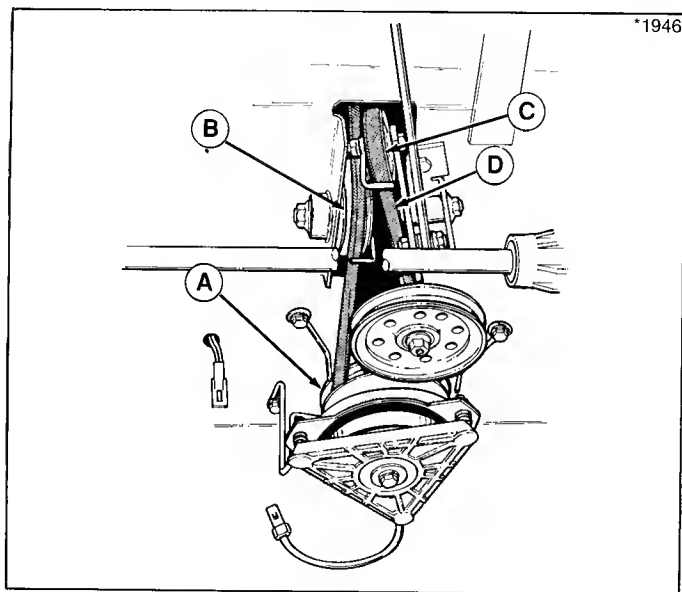

Figure 34. "V" Belt
5. Remove belt (D, figure 34) from idler pulley (C), fixed pulley (B) and engine pulley (A). Loosen belt stops as necessary.